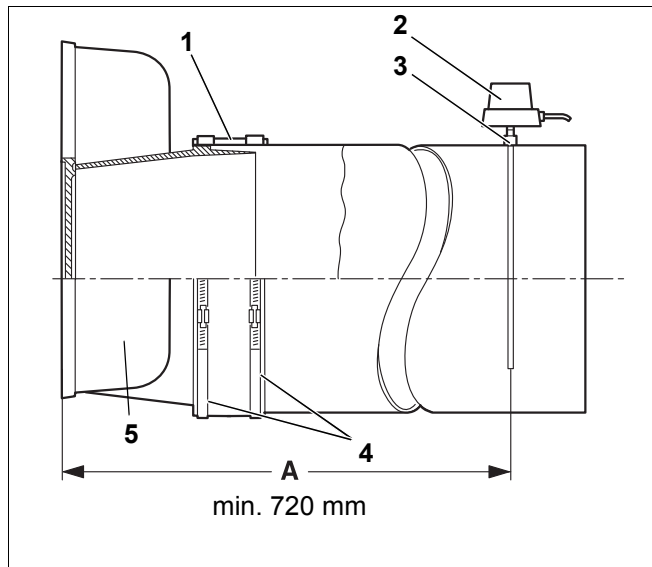

Fig. 29 Flue gas pipe installation
We recommend you use a flue gas pipe sealing collar (Fig. 29, [1]).
- Place the jubilee clips (Fig. 29, [4]) over the flue gas pipe sealing collar. One of the jubilee clips must clamp on the coupling of the flue gas collector and the other onto the flue gas pipe.
- Weld the coupling (Fig. 29, [3]) at a distance of  $2 \times$  flue gas pipe diameter (A) – min. 720 mm – from the flue gas collector into the flue gas pipe.
- Install the flue gas temperature sensor (Fig. 29, [2]) in accordance with separate installation instructions.